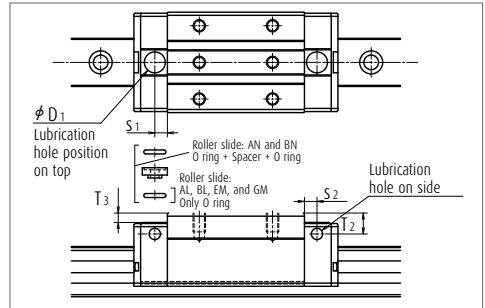

Fig.13 Top and side lubrication hole positions
- > A lubrication hole can also be provided on the top of the end cap. Fig.13, Table 9 and Table 10 show the mounting position. A spacer is required for AN and BN shape roller slides. The spacers are available from NSK.